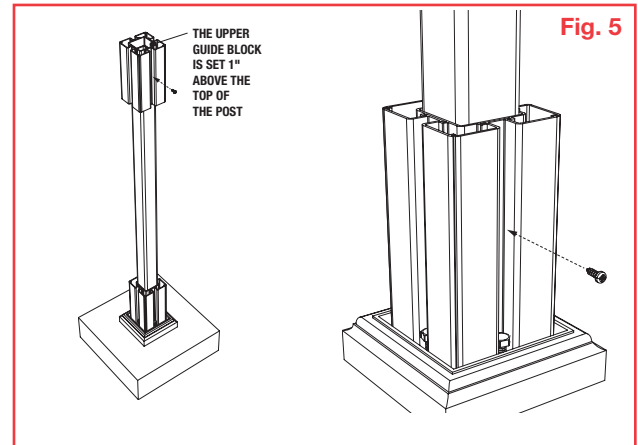

Fig. 5
- Install the two guide blocks onto the post mount member (Fig. 5).